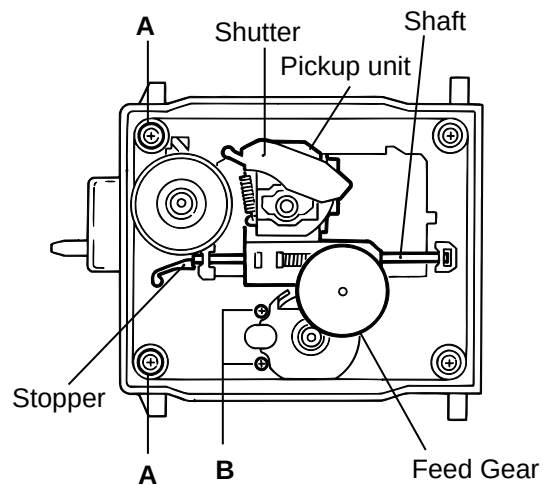
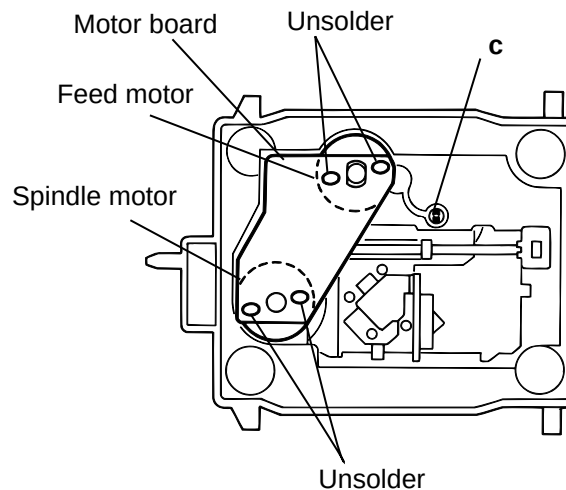

Fig.1
Fig.3
- Loosen the two screws **A** fixing the chassis.(Fig.1)
(Fig.1, Fig.3, Fig.4)
- Pull out the shaft by opening the pickup shaft stopper outward to unlock.(Fig.1, Fig.2)
- Removing the pickup unit.(Fig.1)
- Unsolder the motor terminal on the motor board.(Fig.3)
- Remove the motor board.(Fig.3)
Remove the two motor fixing screws at **B** and removing the feed motor.(Fig.1, Fig.3)